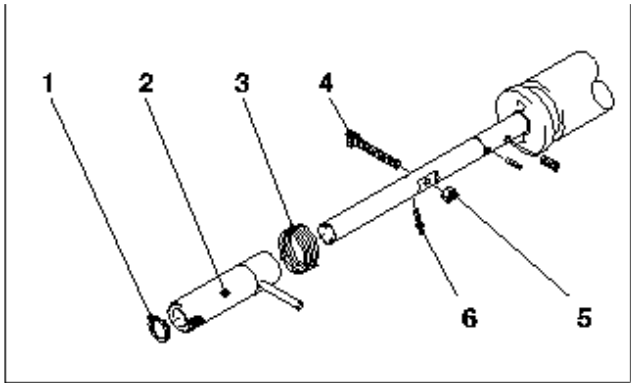

Fig. 2 Blanket washup device D.S.
2. Remove the circlip (Fig. 2 /1) and unhook the torsion spring (Fig. 2 /3).
3. Pull off the handle assembly (Fig. 2 /2) and remove the spring dowel sleeve (Fig. 2 /6).
5. Remove hexagon-head screw (Fig. 2 /4, 3 /2) and hexagon nut (Fig. 2 /5, 3 /1).